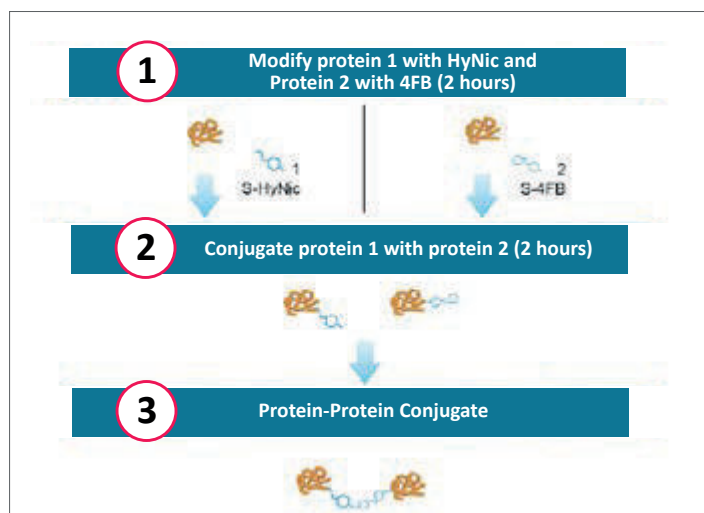

Figure 10. Protein-Protein Conjugation Kit workflow.
This kit is designed to conjugate two (2) reactions, each using 50-650 µg of each protein 20kDa or greater with any other protein of equal or greater size. Any suitably pure monoclonal or polyclonal antibody can be conjugated as well as any other amine containing proteins. The kit utilizes the HyNic/4FB coupling to produce these high quality protein conjugates with high yield (Figure 10). Common examples of protein-protein conjugates produced using this kit include HRP-antibody and PE-antibody. This kit is flexible so that researchers with little or no conjugation experience can make their own custom protein-protein conjugates to suit their needs.